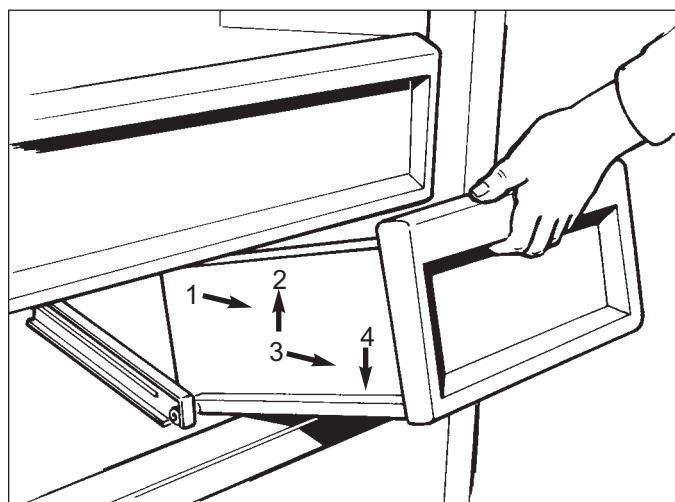

Figure 7-8. Small Storage Drawer Removal
Remove the small storage drawer assemblies by pulling open until drawer stops (1). Raise front of drawer (2) while pulling out further to bypass stop (3), then drop front of drawer down while lifting rear drawer rollers out of the roller/slide assemblies (4). (See Figure 7-8)